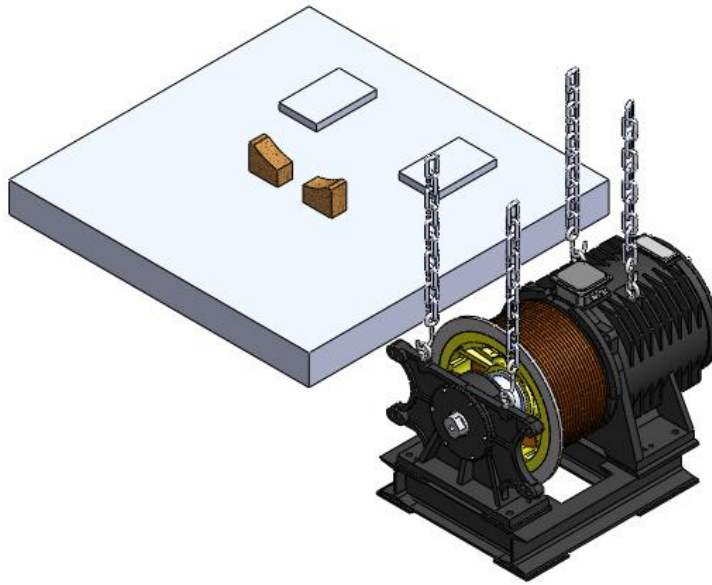

Figure 76: Hoist machine to spacers
5. Use the lifting device to take the machine to level place where there is enough space to complete the sheave replacement work. See Figures 76 and 77.